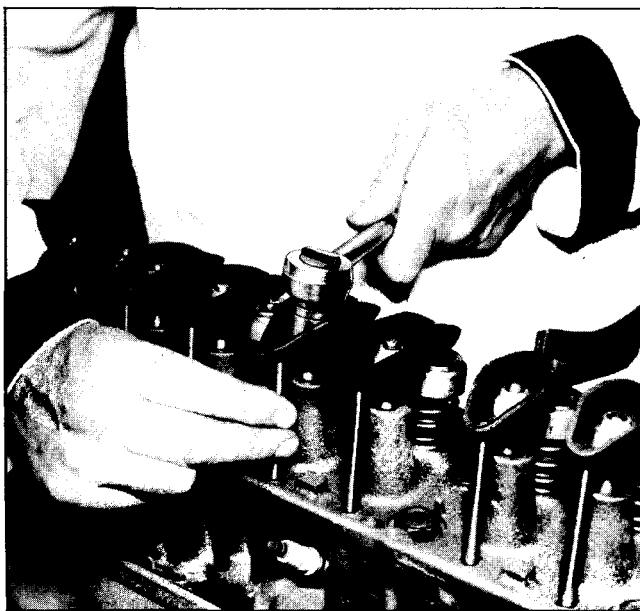

Fig. 6-22 Adjusting Valve Train Lash
3. With lifter on base circle of camshaft, turn rocker arm down until valve train play is removed. Turn nut down one additional turn (Fig. 6-22).
4. With lifter on base circle of camshaft, tighten rocker arm nut until valve train play is removed. Turn nut down one additional turn (Fig. 6-22).
6. Install rocker arms, balls and nuts and tighten rocker arm nuts until all push rod play is taken up (Fig. 6-22).